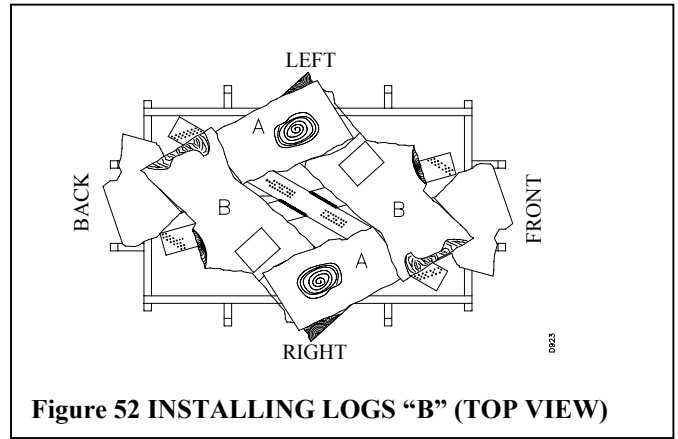

Figure 52 INSTALLING LOGS "B" (TOP VIEW)
7. Place Logs "B" as shown in Figure 52. Lift the end of Log "A" that will be propped up and place Log "B" under it. At the same time, the other side of Log "B" is placed over the other Log "A" in the notched areas as shown. Repeat the procedure for the other opposing logs.